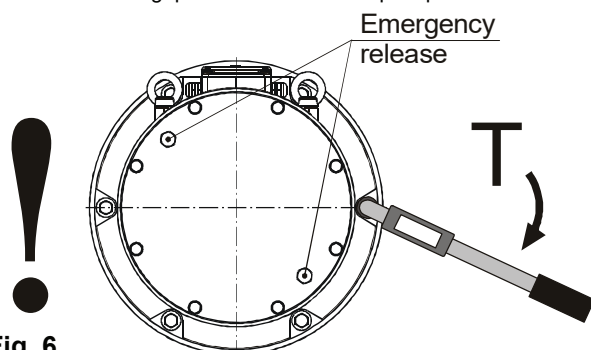

Fig. 6
7. Mount the brake plate (16) again using hexagon head screws (17). Please make sure that the emergency release has the correct angular position (see Fig. 6).